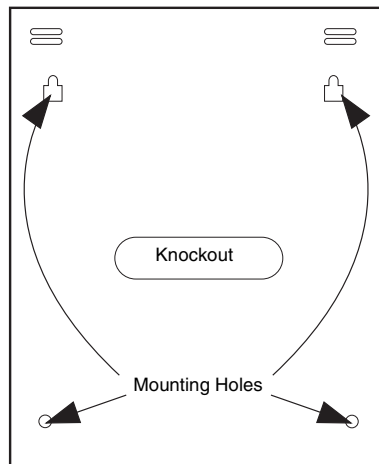

Figure 2. Mounting Holes
2. Remove the knockout to provide access for system wiring (see Figure 2).
4. Level the panel and mark the top and bottom mounting holes (see Figure 2).